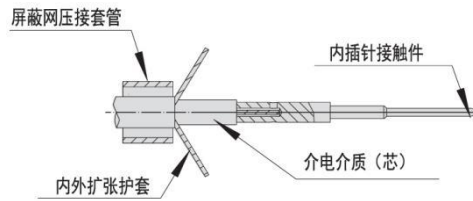

Figure 2.7
② As shown in Figure 2.7, proceed as follows: